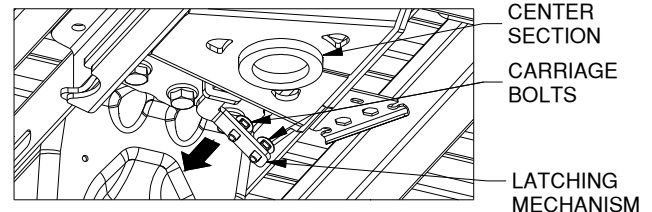

Figure D1: Looking up at center section.
- 1. Install bolts.** Retract the latching mechanism by pulling on the tab with the square holes and pushing it toward the cab. Insert a 3/8 carriage bolt in each of the square holes in the latching mechanism. Retract the latching mechanism by pushing the tab with the square hole toward the rear of the truck, see figure D1.